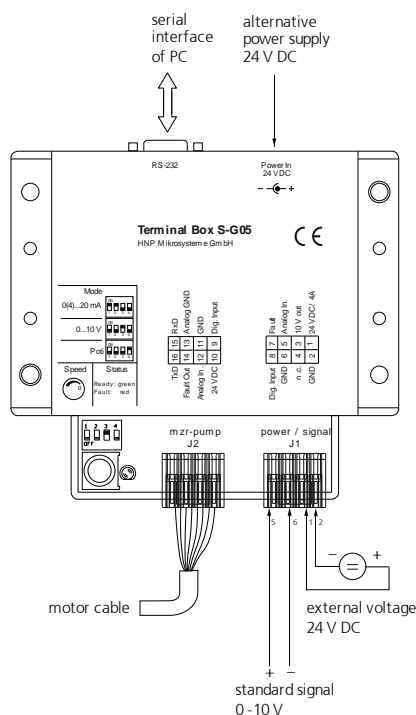

figure 10
4. Connect an external 0-10 V voltage supply to the terminal clamps »AnalogIn« and »GND« to the S-G05. (see figure 10)
11. Connect an external 0-10 V voltage supply to the terminal clamps »AnalogIn«, »10 V« and »GND« to the S-G05.(see figure 10)